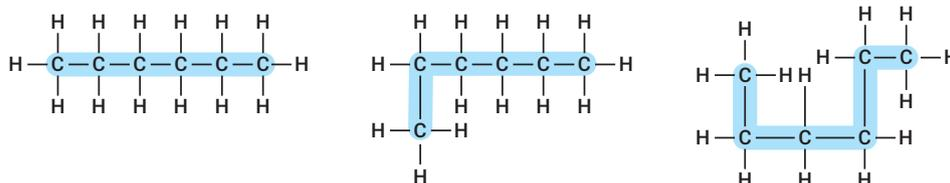

FIGURE 12.3.1 All of these molecules have six carbons in a continuous chain so are different representations of the same molecule, hexane.
1. Establish the number of carbon atoms in the *longest continuous chain* in the molecule. The stem of the molecule is named accordingly, using the names shown in Table 12.1.1. Note that the way in which molecules can appear to be drawn can be misleading, as shown in **Figure 12.3.1**.